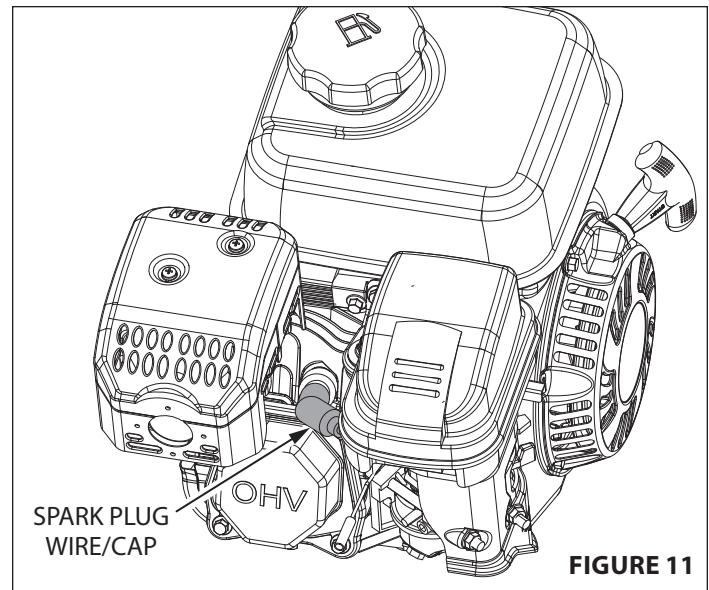

FIGURE 11
1. Detach spark plug cap/wire and move away from spark plug. **SEE FIGURE 11**
2. Disconnect the spark plug cap, and clean any debris from around the spark plug area. **SEE FIGURE 11 on previous page.**
4. After analysis, seat spark plug and tighten with spark plug wrench to compress the sealing washer. **SEE FIGURE 11 on previous page.**